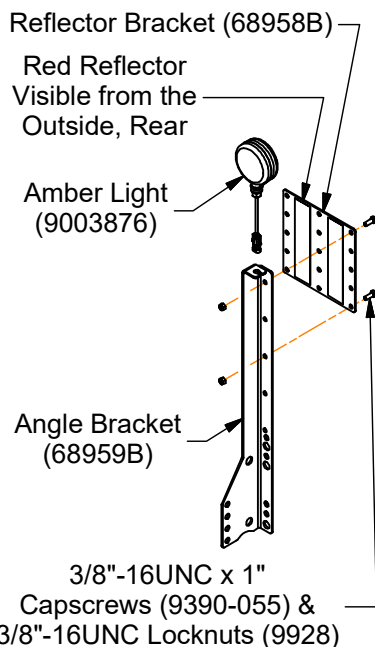
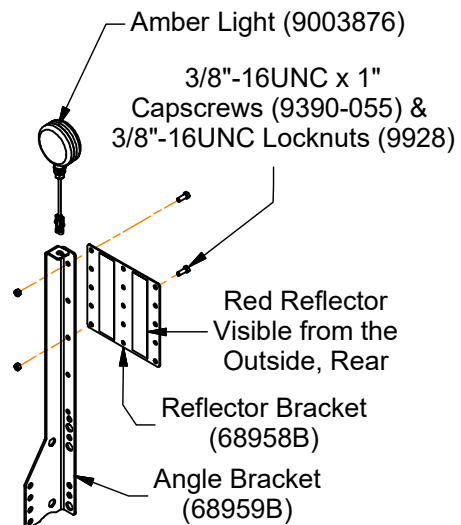

FIG. 2-14
FIG. 2-15
1. Attach the reflector brackets (68958B) on the outer reflector assemblies at the top of the angle brackets with the red reflector farthest from the angle bracket as shown in FIG. 2-14 and FIG. 2-15. Secure with 3/8"-16UNC x 1" capscrews (9390-055) and 3/8"-16UNC lock nuts (9928). Secure the amber lights (9003876) to the top of the reflector assemblies.